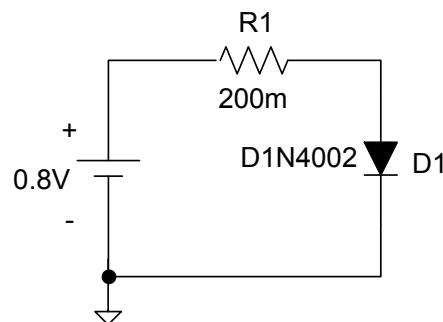

Figure 1
8. Draw and complete the diode circuit shown in Figure 1 in which $R = 200\text{m}\Omega$. You can click the left mouse on the device or element and choose *Attributes* from the *Edit* menu. Alternatively, you can change the attributes of any devices or elements by double clicking the left mouse and giving new values.
9. Analyze the circuit of Figure 1 by choosing *Analysis* from Schematic menu.